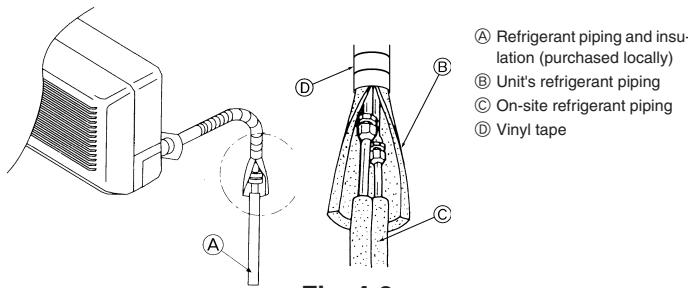

Fig. 4-8
■ PKFY-P06/P08NAMU-E (Fig. 4-8)